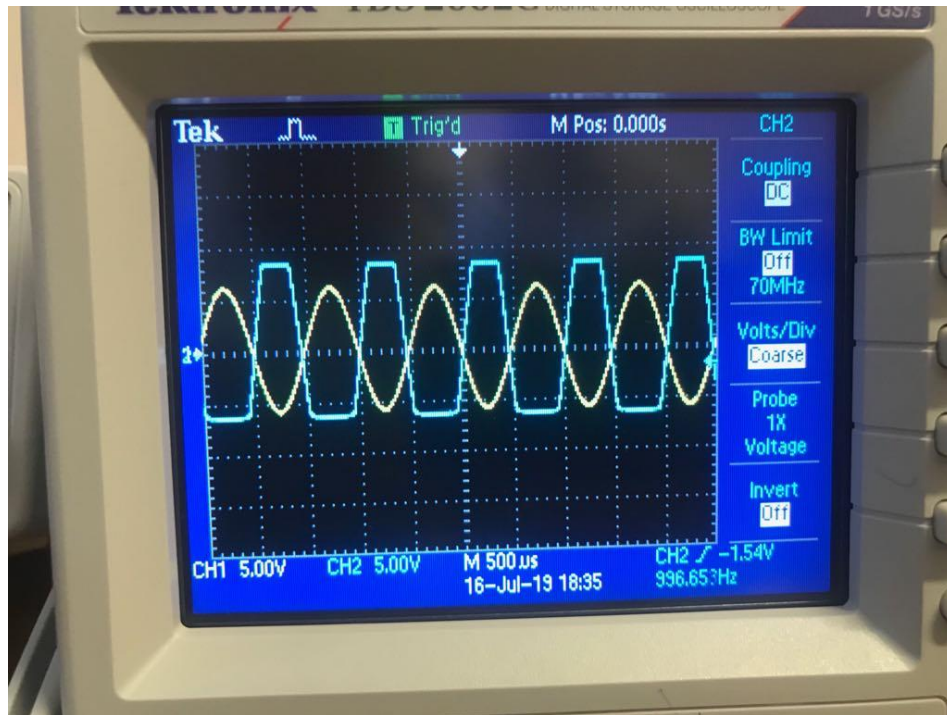

Figure 8
5. The bias potentiometer was turned up further till the output looked like Figure 8.
In Figure 8, both the upper and lower side of the output signal are distorted, and that means that the amplitude of the output signal is larger than the bias voltage (the output is a scaled of the input and that means that the factor times the amplitude of the input is larger than the bias voltage), than **the amplifier is not one of the basic classes.**